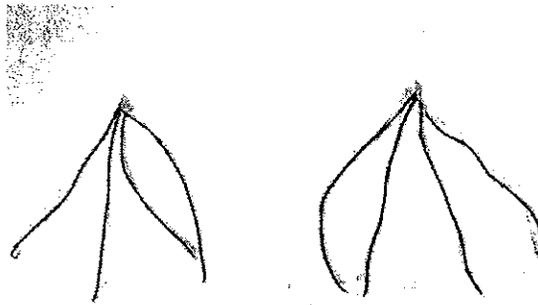

Figure 34: Spliced wire bundles
4. Take one end of each of the four red wires and twist them all together, as shown in Figure 34 below.